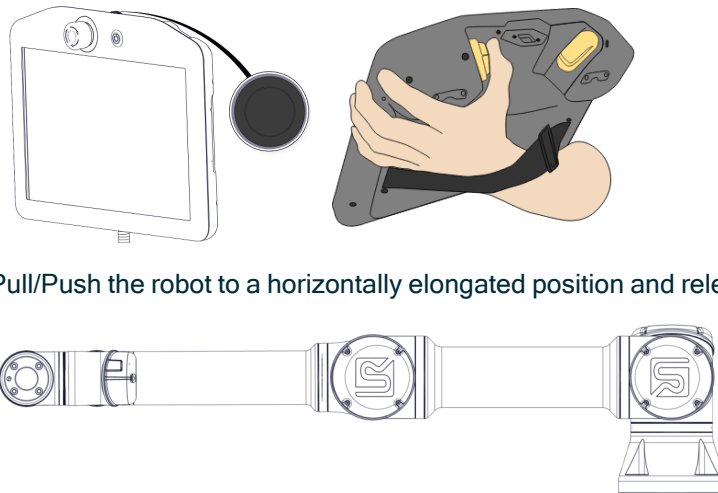

**Figure 3.2**
1. Press the emergency stop button of the teach pendant. See figure 3.2.